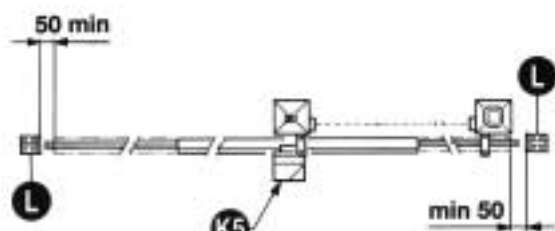
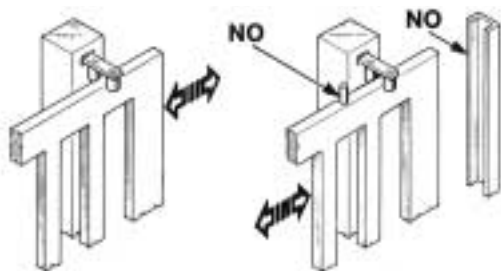

Fig. 2
Fig. 3
The guide must be provided with two mechanical stops at its ends (Fig. 2). Gate columns shall have anti-derailment guides on their top (Fig. 3), to avoid the unintentional gate release.
N.B.: Eliminate those mechanical stops of the kind described by figure 3. No mechanical stop shall be on top of the gate, since mechanical stops are not safe enough.